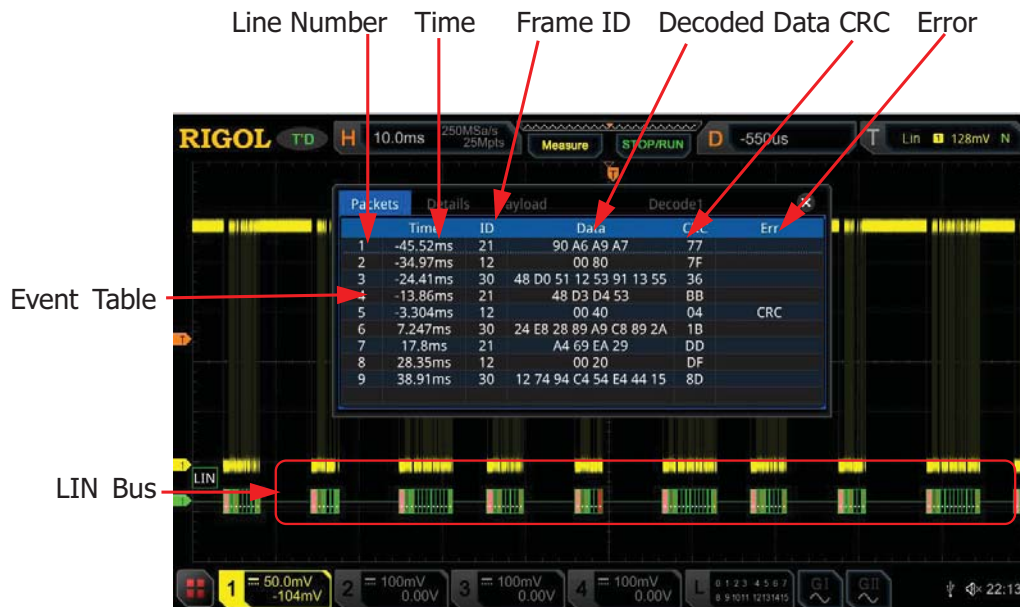

Figure 11-9 LIN Decoding Event Table
- Open or close the event table: Press **Event Table** continuously to enable or disable the event table. When you enable the event table, the following figure is displayed, as shown in Figure 11-9. You can also enable the touch screen to tap the icon  at the upper-right corner of the table to close the event table. Besides, when the operating status is "STOP", you can also rotate the multifunction knob  to select a specified line and view the corresponding decoding information.